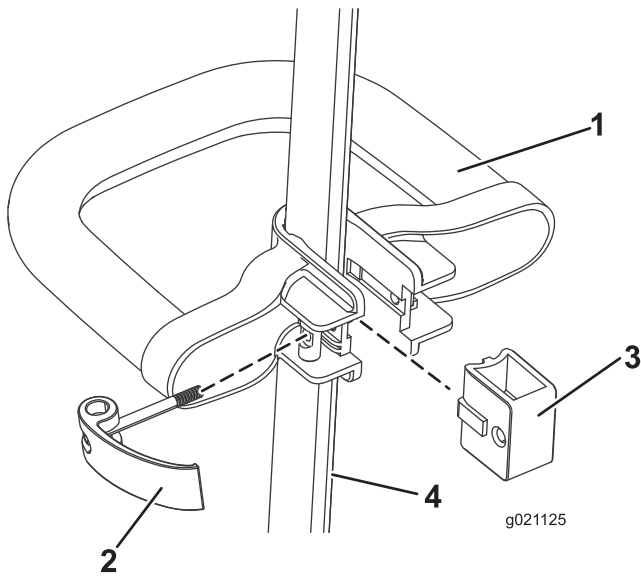

Figure 5
1. Position the auxiliary handle on the upper shaft of the trimmer with the smooth surface facing the operator (Figure 5).
2. Slide the brace into the auxiliary handle so that the brace rests in the groove along the shaft (Figure 5).
3. Slide the latch from the left through the handle and brace as shown in Figure 5, and tighten the latch screw with a Phillips screwdriver.